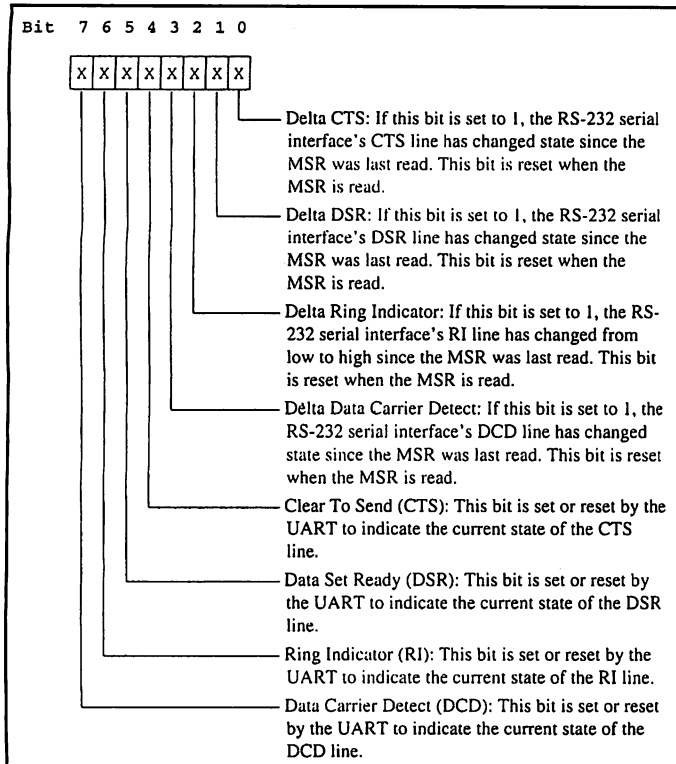

Fig. 12. Modem-Status Register for 8450.
• **Modem-Status Register.** This register is read to obtain the current states of the CTS and DSR lines and indicates the current state of the DCD and RI. Figure 12 details the bit structure for both the 8250 and 16550. The MSR is addressed at 0x3FE.